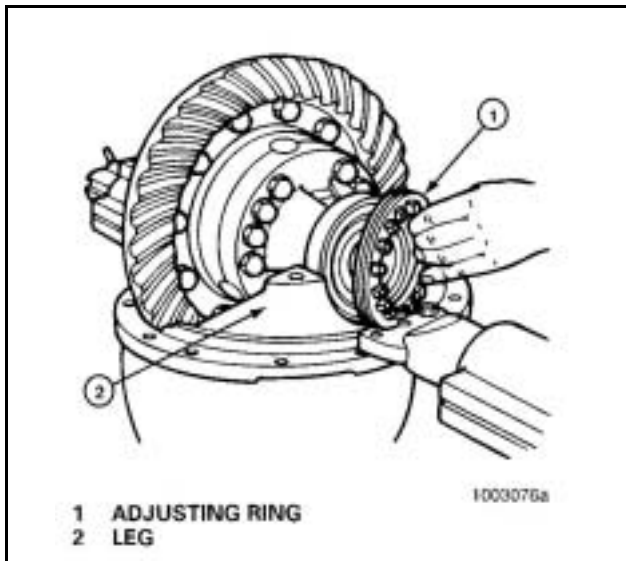

Figure 98
6. Install both of the bearing adjusting rings into position between the carrier legs. Turn each adjusting ring hand-tight against the bearing cup. **Figure 98.**